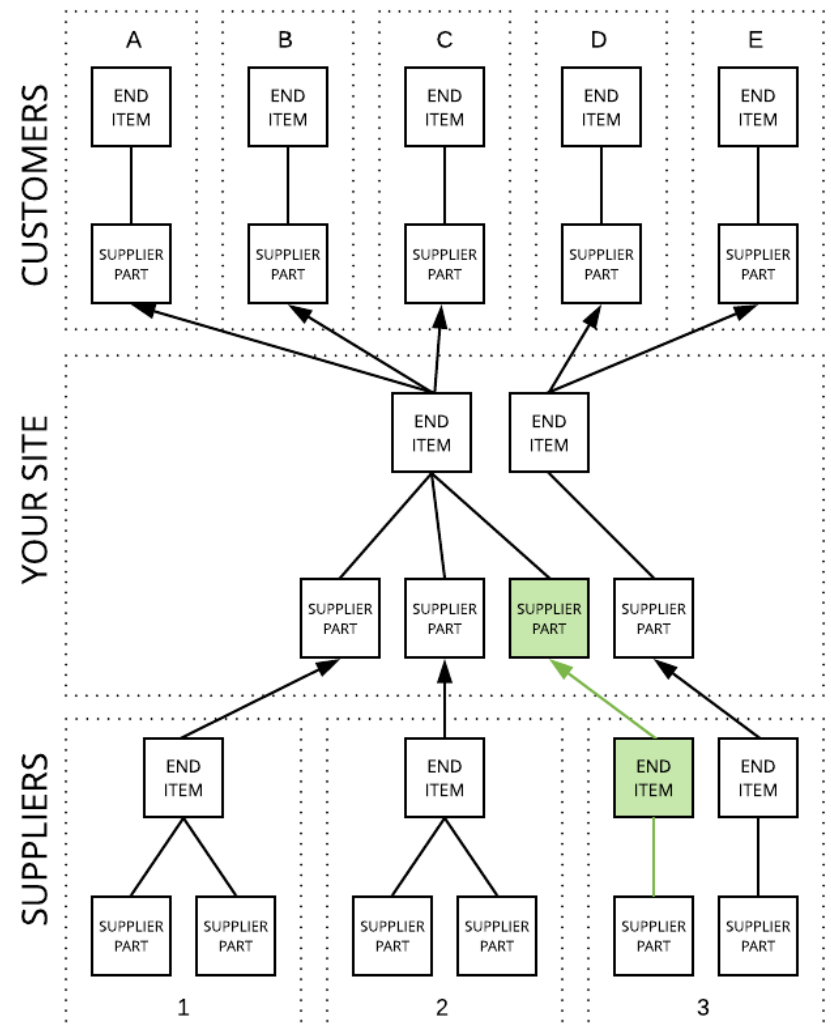

Figure 3
In Figure 3, the site has added an additional Part for Supplier 3. The new Part has been assigned to just one of the site's two End Items.
Supplier Part and End Item assignments can be made during the supplier upload process. The upload template (XLSX format) has four fields in each row to accept descriptors for the Part Provided by the Supplier and the End Item to which that Part is assigned. The table that follows contains what would be a valid upload corresponding to Figure 3 above. Following the table are several observations worth noting.
- End Items are a function of the End Item Category and End Item Name. There are two distinct End Items in Figure 3 that have been designated (Category 1, End Item 1) and (Category 2, End Item 1) in Table 1.
- Supplier Parts are a function of Commodity and Part. There are four distinct Parts in Figure 3 that have been designated (Commodity 1), (Commodity 2), (End Item 1) and (End Item 2) in Table 1. Note that for each record, either Part or Commodity has been left blank as allowed.